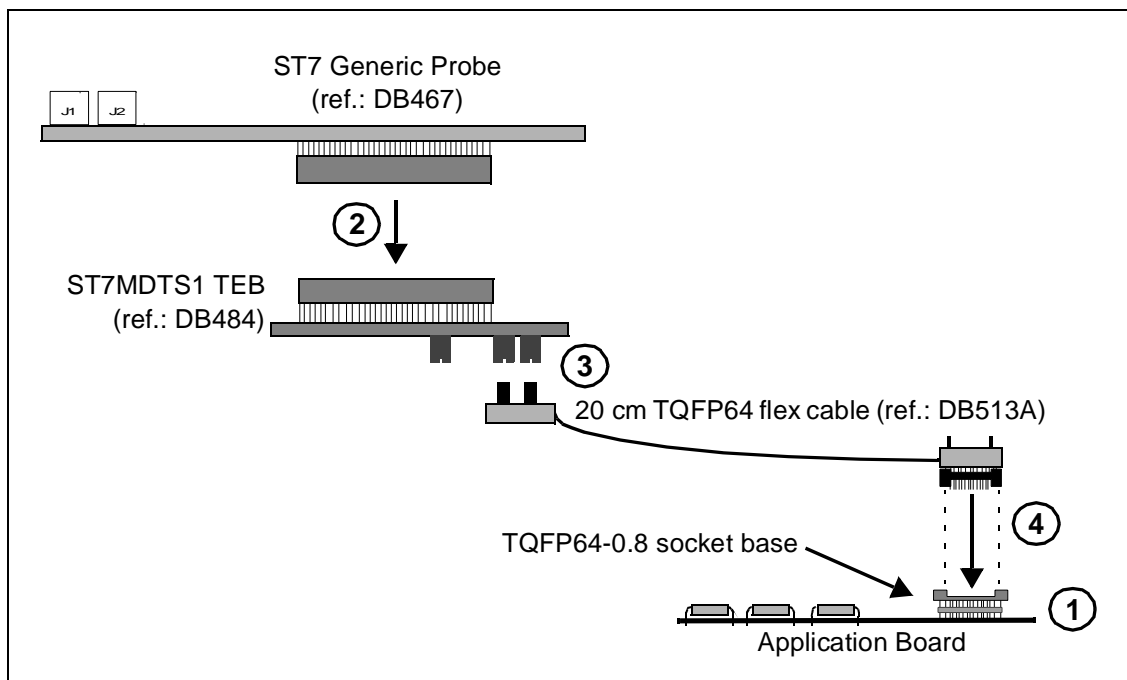

Figure 7: TQFP64 MCU package connections
If you are using the TQFP64 package, proceed as follows (see *Figure 7*):
- 5 Now use the four screws supplied to fasten this entire assembly together through the holes located on the TQFP flex cable connector as indicated in *Figure 7*.